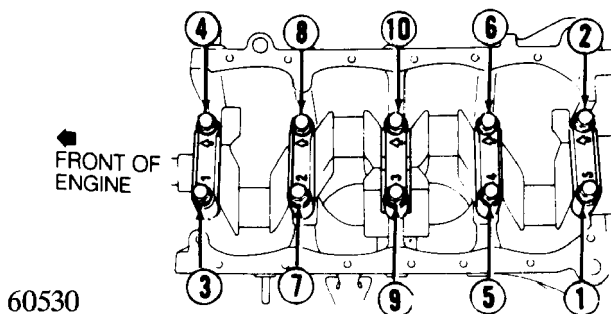

Fig. 13: Main Bearing Cap Removal Sequence
1) Remove main bearing caps evenly in 3 steps and in sequence. To tighten, reverse removal sequence. See Fig. 13. Check bearing clearance. If bearing clearance is not within specification, machine or replace as necessary. See ENGINE SPECIFICATIONS table at end of this article.